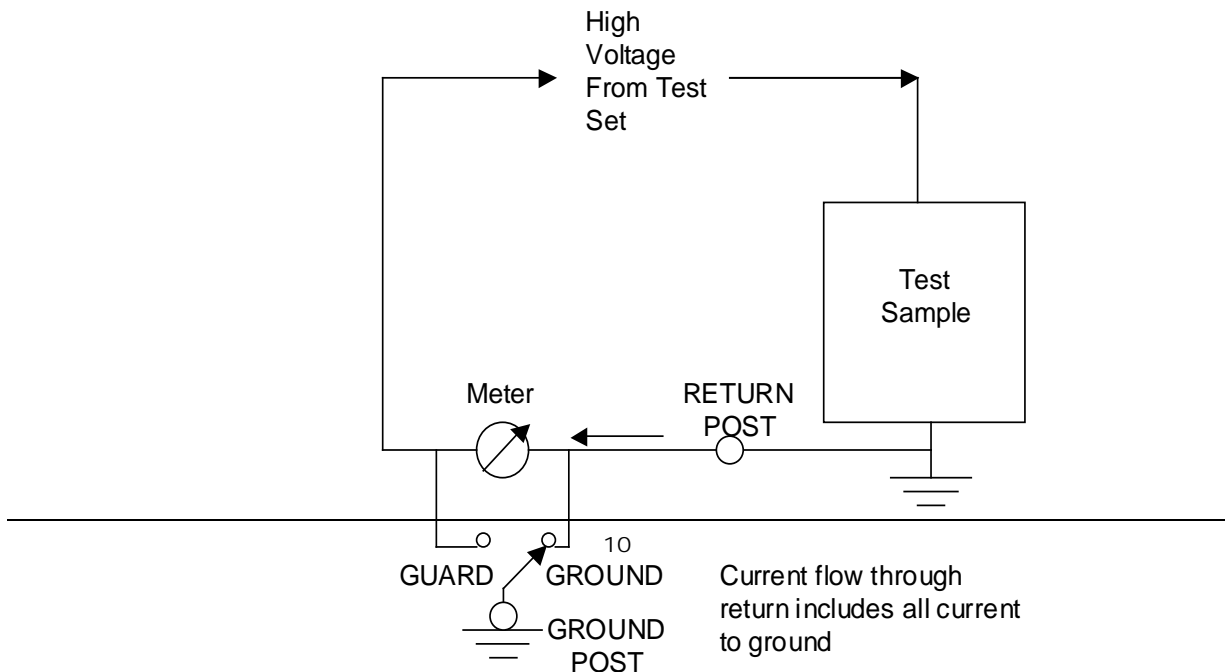

Figure 2, Grounded Return Diagram
1. **Grounded Return-** With the output return in the grounded mode, the current meter reads all current to ground, internal and external to the power supply. This current might include corona, surface tracking, and any shunt resistance. The typical diagram for grounded return operation is shown in **Figure 2** below.